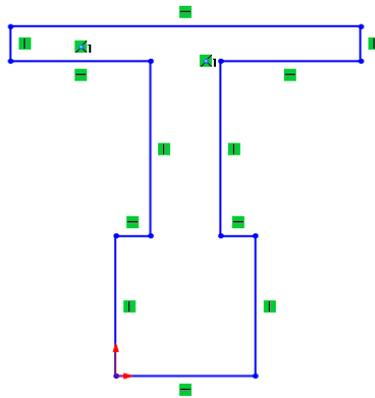

Figure 2-61 Final sketch for Tutorial 1
16. Move the line cursor vertically downward to the start point of the first line. Click when an orange circle is displayed; the final sketch for Tutorial 1 is created, as shown in Figure 2-61. In this figure, the grid display and **Shaded Sketch Contours** settings are turned off for clarity.
In Figure 2-61, the display of relations is turned on. To turn off the display of relations, choose the **View Sketch Relations** button from the **Hide/Show Items** flyout in the **View (Head-Up)** toolbar.